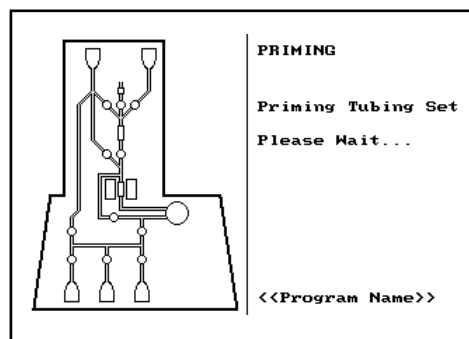

Figure 20: Screen no. 11.
The window will display screen no. 11 as shown in figure 20. During the priming phase the tubing set is filled with buffer. The buffer will be circulated through the tubing set including both the pre-column and the separation column. Priming waste is collected in the Priming Waste Bag (1) and the Buffer Waste Bag (12, fig. 4). The priming cycles will continue, repeating a series of steps. The priming phase will take approximately 1 minute. Priming status will be updated on the display.